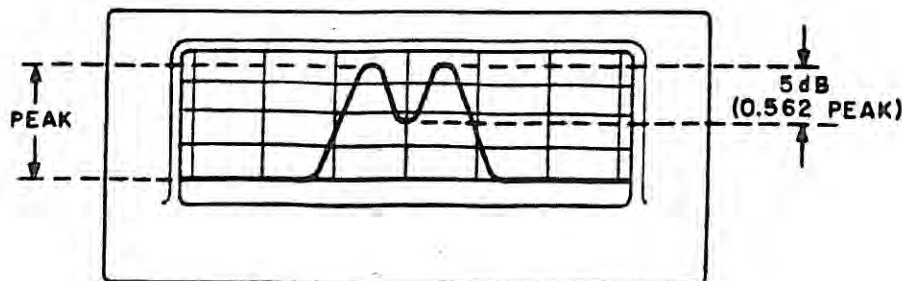

Figure A-2. Typical Response, Signal Monitor Resolution Test
- (7) Decrease the signal generator output frequency until the pip on the CRT is centered behind the graticule mark to the extreme left of the CRT. Record the frequency counter indication.
- (8) Increase the output frequency until the pip is centered behind the graticule mark to the extreme right of the CRT. Record the frequency counter indication.
- (9) Subtract the frequency recorded in **step 7** from the frequency recorded in **step 8** to determine the maximum sweep width. The frequency difference should be in the range of 4.0 MHz to 4.4 MHz.
- (10) To verify the proper sweep linearity, the frequency recorded in **step 7** should be in the range of 19.200 MHz to 19.600 MHz; in **step 8** it should be in the range of 23.200 MHz to 23.600 MHz.
- (11) Turn the signal monitor GAIN control maximum counterclockwise. Turn the MARKER switch ON.
- (12) Use the CENTER FREQ control to align the marker pip behind the middle graticule mark.
- (13) Use the SWEEP WIDTH control to expand the base of the marker pip until it is two divisions wide.
- (14) Rotate the signal monitor GAIN control clockwise until the signal generator pip is the same height as the marker pip. Turn the marker off and then on again to observe the two heights.
- (15) Adjust the signal generator frequency for a zero beat with the marker.
- (16) The indication on the frequency counter at zero beat should be 21.4 MHz \pm 3 kHz. This assures that the marker oscillator frequency is within tolerance. Record the frequency for use in steps 17 and 19.
- (17) With the 21.4 MHz marker two divisions wide at the base, tune the signal generator frequency until the dip between the 21.4 MHz marker and the signal generator signal is 0.5 of the peak signals as shown in Figure A-2.
- (18) Record the frequency counter indication.
- (19) Subtract the frequency recorded in step 16 and the frequency recorded in step 17. This difference should be less than 10 kHz to assure that the signal monitor has proper resolution.